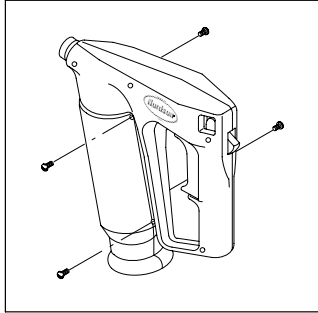

Figure 24 Remove Pivot Sleeve Shells (typical gun shown)
3. See Figure 24. Use a Phillips screwdriver to unscrew the four screws holding the shells together.